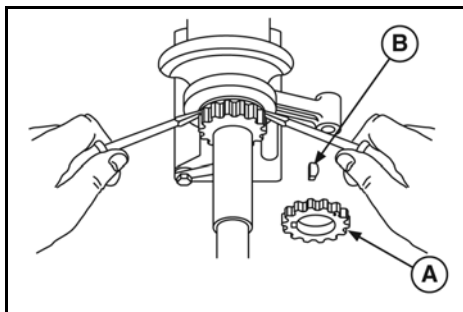
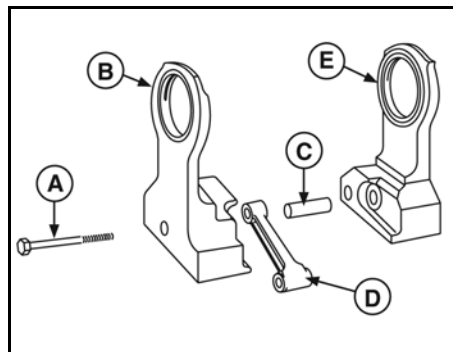

Figure 26
Figure 27
1. Remove crankshaft gear (A, Figure 26).
2. Woodruff key (B) can be removed, if required.
3. Remove screw (A, Figure 27) from counterweight.
4. Remove PTO counterweight (B), dowel pin (C), and link (D) from crankshaft.
5. Remove crankshaft from magneto counterweight (E).